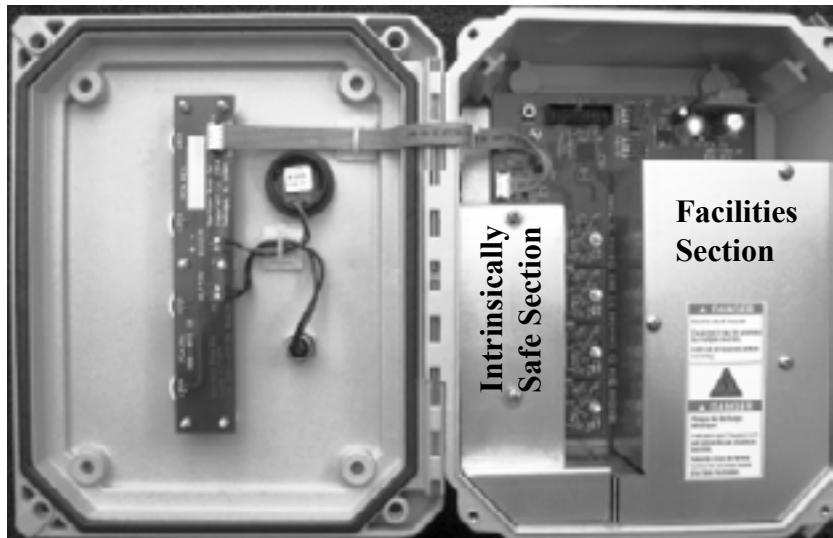

Figure 1 Basic Layout of the 918AC
- b. Remove and retain the two screws with their flat washers. Remove the metal cover of the intrinsically safe section (see Figure 1).
- a. Remove the cover over the Facilities section of the System Interface (see Figure 1).